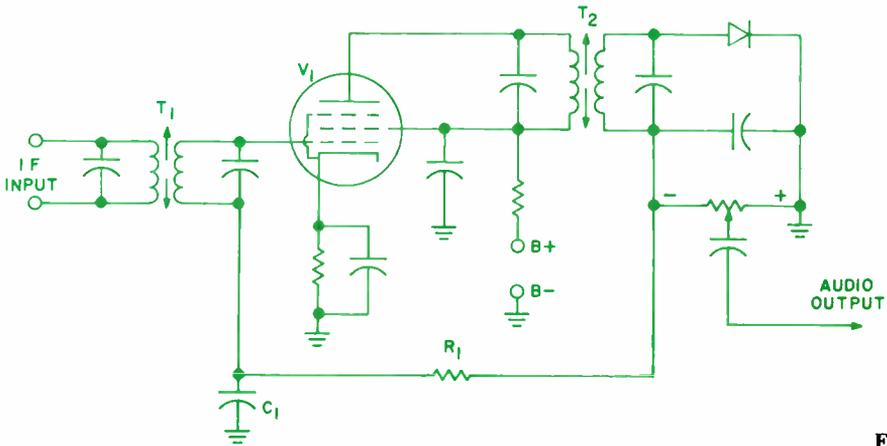

Fig. 3
Fig. 3 shows how this voltage can be put to work. Resistor  $R_1$  and capacitor
3. Capacitor  $C_1$  in Fig. 3 is used to provide delayed agc.